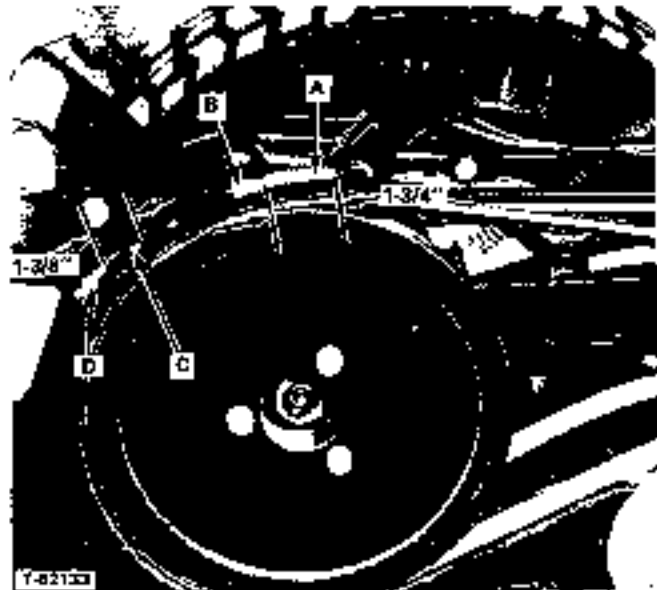

FIGURE 36 - Pulley Brake Adjustment
- The pulley brake return spring (C, Figure 36) should be compressed enough so that it measures  $1-3/8$ " (34 mm) with the clutch-brake pedal released (up). If it does not, turn the nut (D) to obtain the proper measurement.
- While holding the clutch-brake pedal down fully, measure the length of the spring (A) on the pulley brake roll. It should be compressed to  $1-3/4$ " (45 mm). If it is not  $1-3/4$ " (45 mm) loosen the adjusting nut (B) and move it forward or back until the proper measurement is reached.